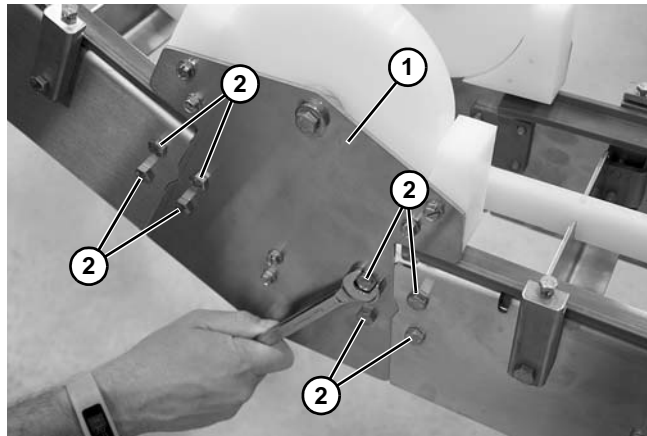
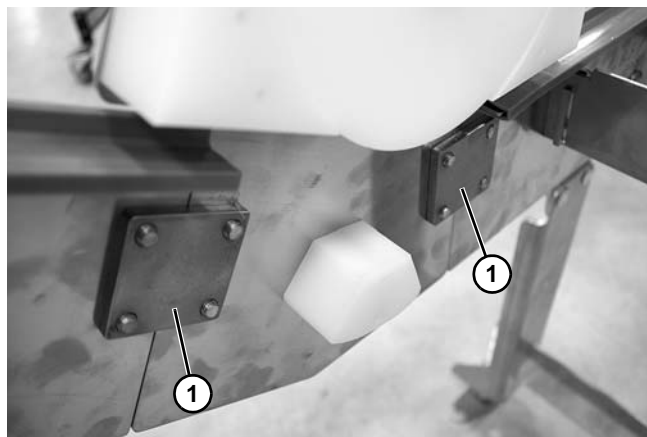

Figure 8
Figure 9
1. Attach lower knuckle (**Figure 8, item 1**) to frame using four screws (**Figure 8, item 2**) and two plates (**Figure 9, item 1**) on each side of the lower knuckle assembly.